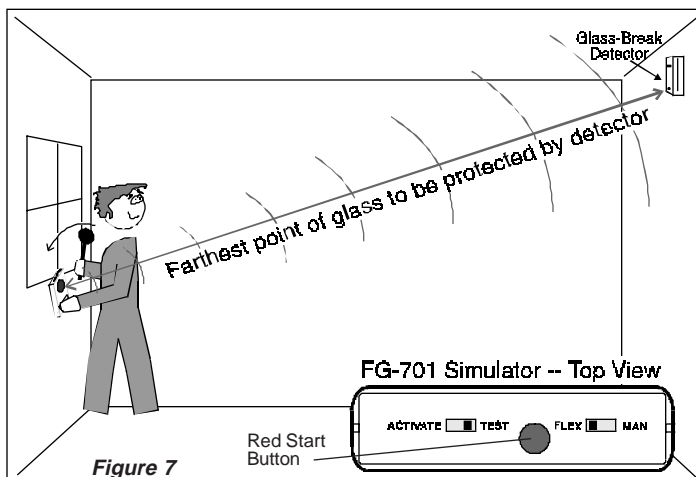

Figure 7
5. Generate a flex signal by carefully striking the glass with a cushioned tool. The FG-701 will respond by producing a burst of glass-break audio. (Refer to Figure 7.)